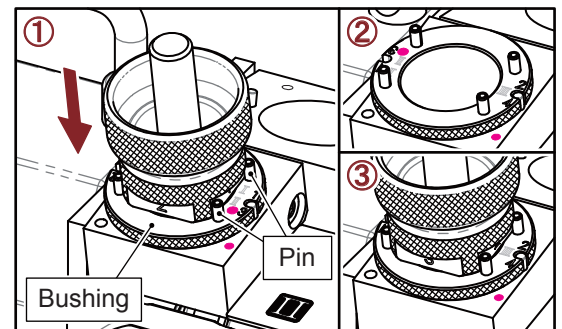

Fig. 5-25
2) 4 Flute End Gash Grinding (II) (Fig. 5-25)
① Insert the chuck set into the bushing on the Shelf (II), align Slot No.1 to the two pins where marked as No.(1·3), push the chuck set gently until the grinding noise stops. Turn the chuck set to grind the Slot No.3 in the same way.
② Take the chuck set out and turn the bushing to No.(2·4), align No.(2·4) to the pin on the shelf, then insert it to the end.
③ Insert the chuck set into the bushing, align Slot No.2 to the two pins where marked as No.(2·4), push the chuck set gently until the grinding noise stops. Turn the chuck set to grind the Slot No.4 in the same way.